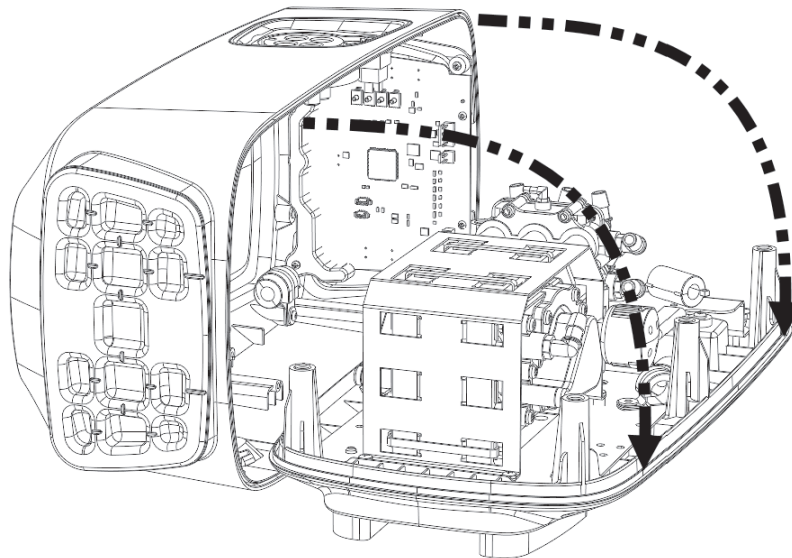

Figure 18 – Separate covers
6. Separate the front and back covers so that the back cover is open and flat in front of you (Figure 18).